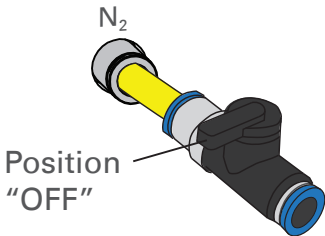

Figure 17: Close the N₂ port of the Gas Mixer with the dead end tubing if not needed (CO₂/O₂ version only).
CO₂/O₂ version of the Gas Mixer: In case the N₂ input is not needed (CO₂/O₂ version only), close the N₂ input port using the provided dead-end tubing (Figure 17).
5.4.3.1 Mode: Each channel of the Gas Mixer can be set to an “On” or “Off” state. For standard operation all channels must be turned on. Only if you use the CO₂/O₂ version without nitrogen (N₂) connection, it is recommended to turn the O₂ channel off. In this case make sure that the dead-end tubing is attached to the N₂ port and closed (see Figure 17).